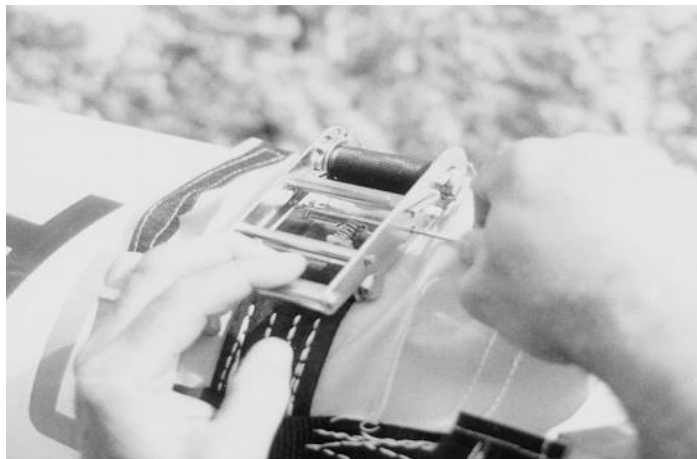

Fig. 9
- d. Lock the ratchet by inserting the cotter pin through the holes in the ratchet housing and handle and spreading the ends of the cotter pin (Fig 9).